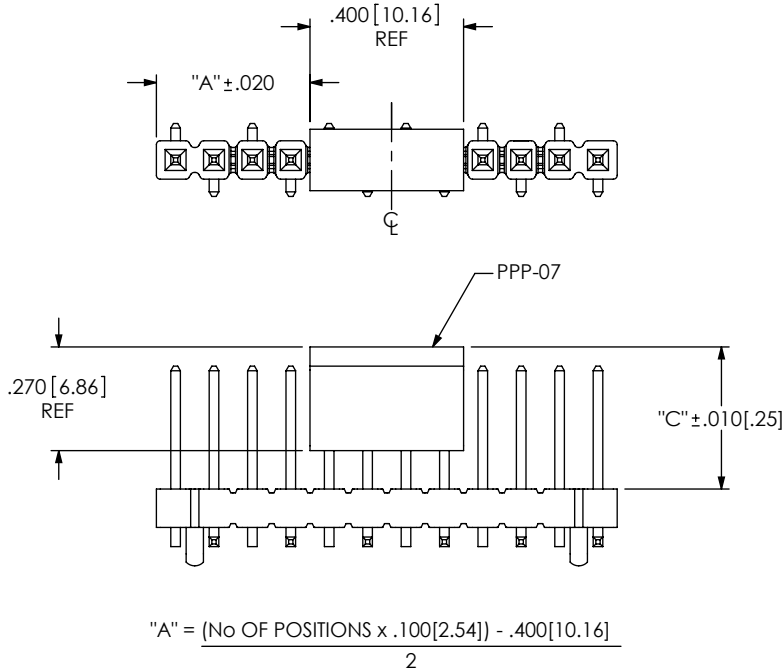

FIG 2
- A: ALIGNMENT PIN (SEE FIG. 2)